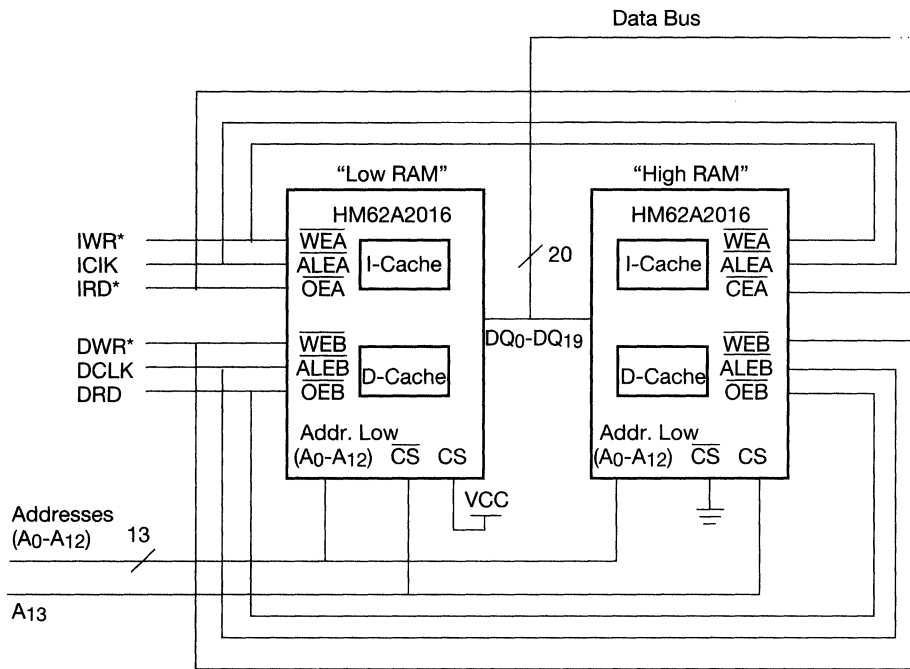

Figure 1. 16k x 20 x 2 Cache SRAM from two 8K x 20 x 2 Cache SRAMs
Each HM62A2016 has a latched active high chip select input (CS) as well as an active low input ( $\overline{\text{CS}}$ ). Depth expansion is achieved by connecting address line (A13) into CS and  $\overline{\text{CS}}$  inputs of two HM62A2016's and grounding or tying to VCC the other remaining chip select of each device, as shown in figure 1. Corresponding (A or B) control inputs ( $\overline{\text{OE}}$ , WE, and ALE) of depth-expanded HM62A2016's should be tied together.